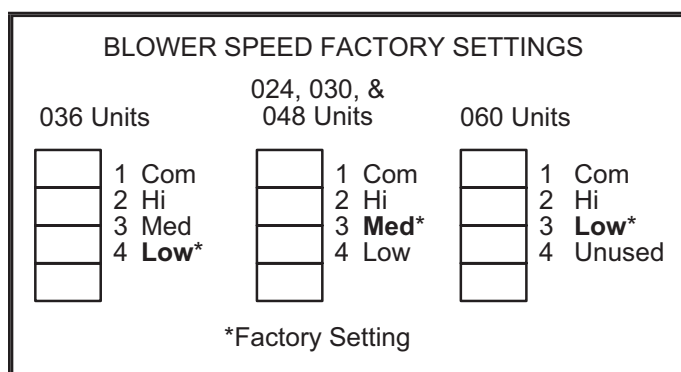

FIGURE 25
- 3 - Use FIGURE 25 to determine the factory set blower speed.